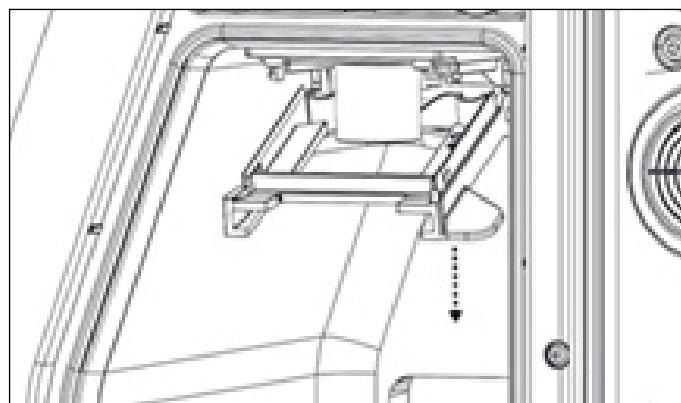

Figure 81
2. Unlatch the dust bag holder (**22**) (**Fig. 4**) by pulling down firmly (**Fig. 81**).
2. If a dust bag is installed, remove the dust bag from the dust bag holder (22) (Fig. 4) by pulling down firmly on the dust bag cuff and sliding toward you (Fig. 81).